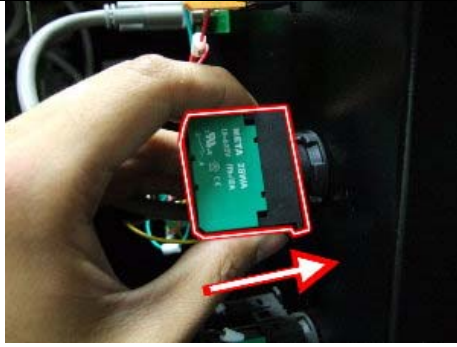

Fig. 2c
- (3). Pull in the node, and then turn it right to lock the node. The figure as shown in Fig. 2c, 2d